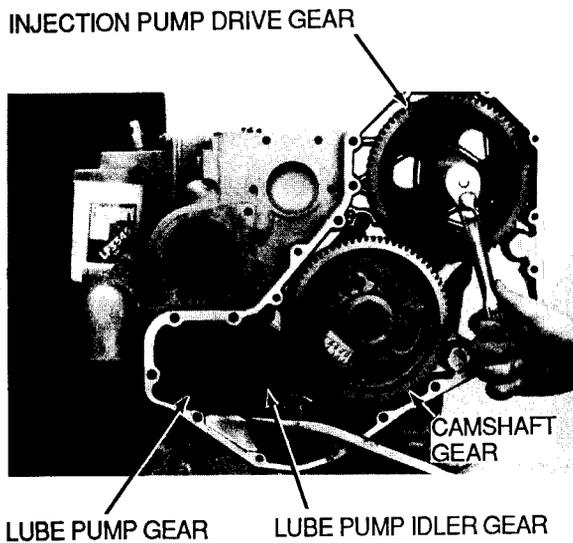

Figure 6-1
3. Check backlash of injection pump drive gear (Figure 6-1) (refer to page 7-1).